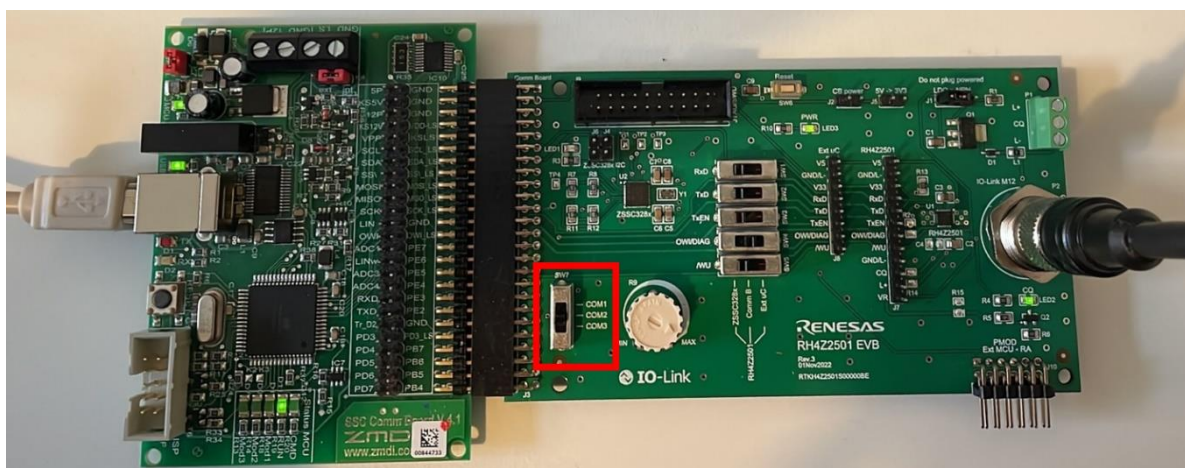

Figure 9. Selecting COM Mode by SW7
- a. Set the Switch 7 (SW7) to the selected COM mode (see Figure 9).